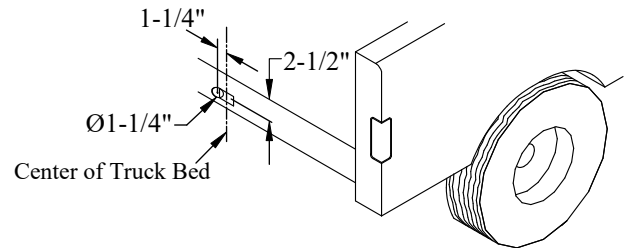

Figure 3: Spare tire access hole location.
2. **Drill** a 1-1/4" diameter hole, 1-1/4" to the left of the center of the bed, and 2-1/2" down from the top of the bed (Figure 3).